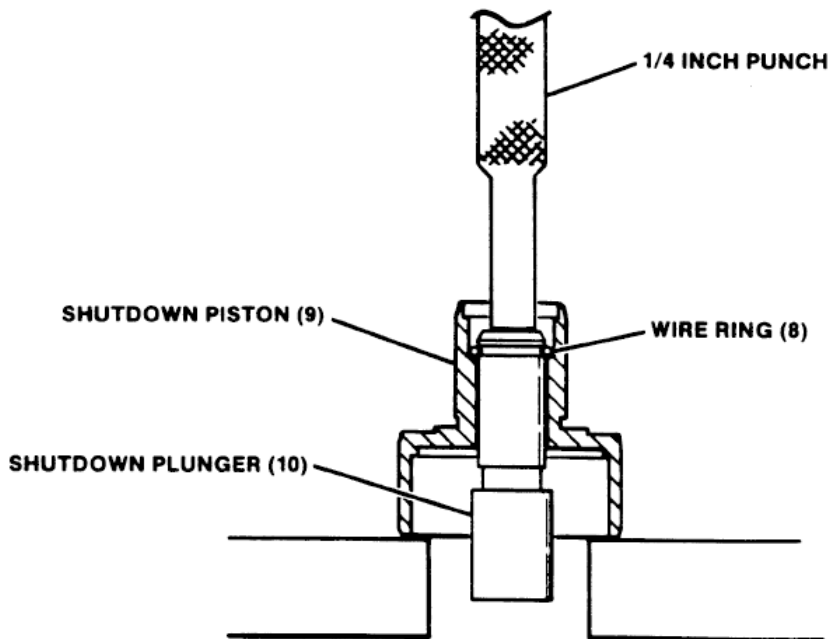

Figure 3-1. Setup to Remove Wire Ring (8) from Shutdown Plunger (10)
5. Remove wire ring (8) from shutdown plunger (10). Refer to Figure 3-1. Use a 1/4 inch (6 mm) punch and arbor press to push the shutdown plunger (10) through wire ring (8) and piston (9).
**Support shutdown piston (9) high enough while being pressed out of shutdown plunger (10) to pass beyond wire ring (8).**